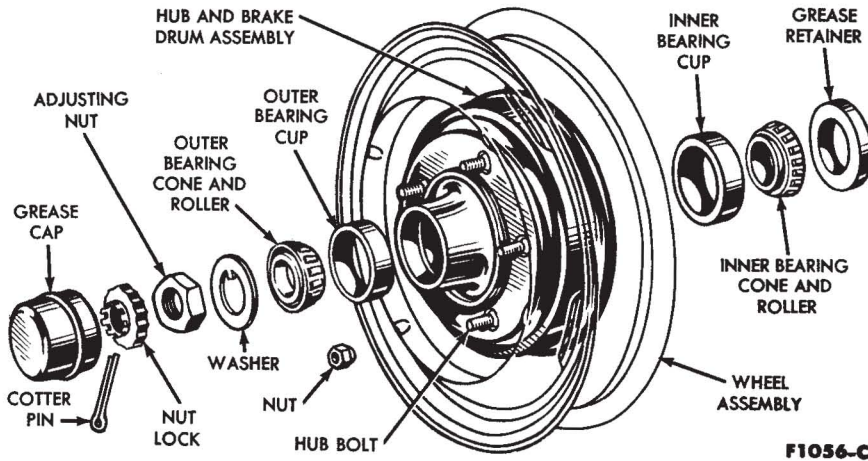

FIG. 3—Front Hub, Bearings, and Grease Retainer
2. Pry off the wheel cover and remove the grease cap (Fig. 3) from the hub.
2. Remove the grease cap from the hub, remove the cotter pin, nut lock, adjusting nut, and flat washer from the spindle, then remove the outer bearing cone and roller assembly (Fig. 3).
12. Install the outer bearing cone and roller assembly and the flat washer on the spindle, then install the adjusting nut (Fig. 3).